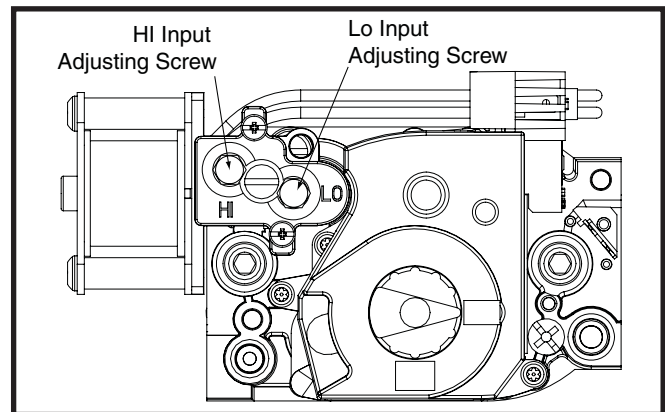

Figure 27. HI and LO Input Adjusting Screws
- c.) Using an Allen wrench, turn the the LO Input Adjusting Screw on the LO side of the regulator to adjust the reduced input setting or turn the HI Input Adjusting Screw (Figure 27) on the side of the regulator to adjust the full input setting. **IMPORTANT NOTE: Turning the adjusting screw clockwise increases the pressure and counterclockwise reduces the pressure.**